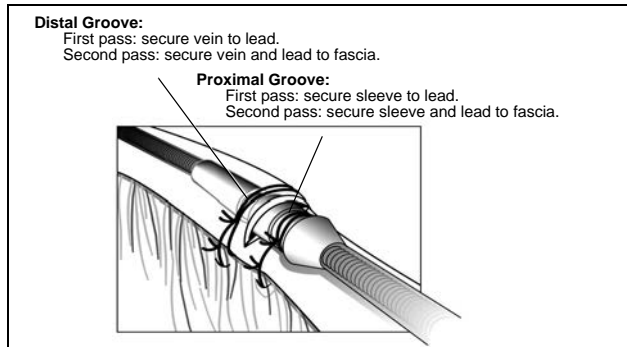

Figure 16. Using the sleeve with the venous cutdown technique.
1. Slide the suture sleeve into the vein past the distal pre-formed groove. Ligate the vein around the suture sleeve to obtain hemostasis. Next, using the same groove, secure the lead and vein to the adjacent fascia (Figure 16).